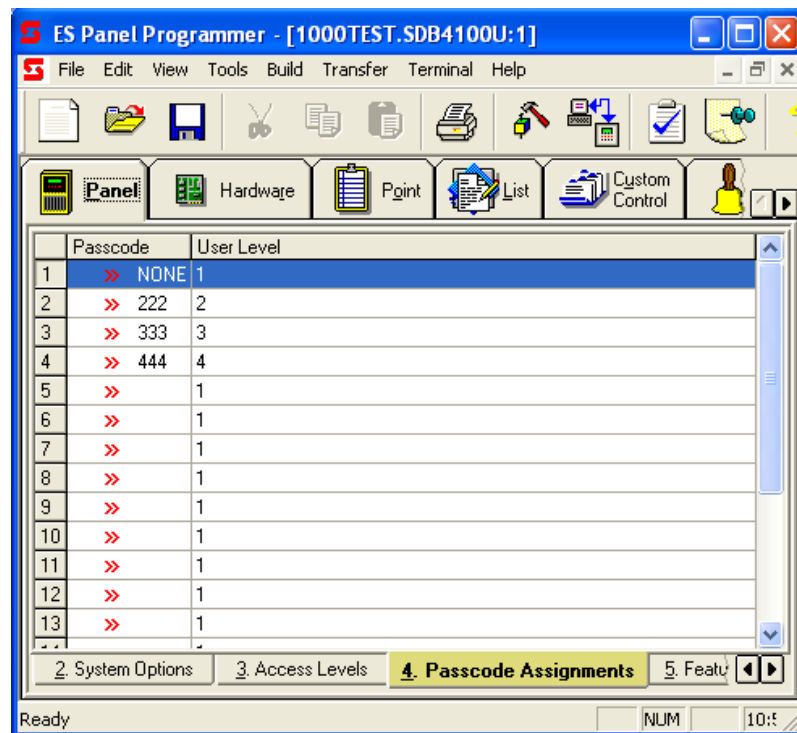

Figure 4-5. Passcodes Screen
2. Click on the **Passcodes** Tab at the bottom of the programmer. A screen similar to the one shown in Figure 4-5. appears.